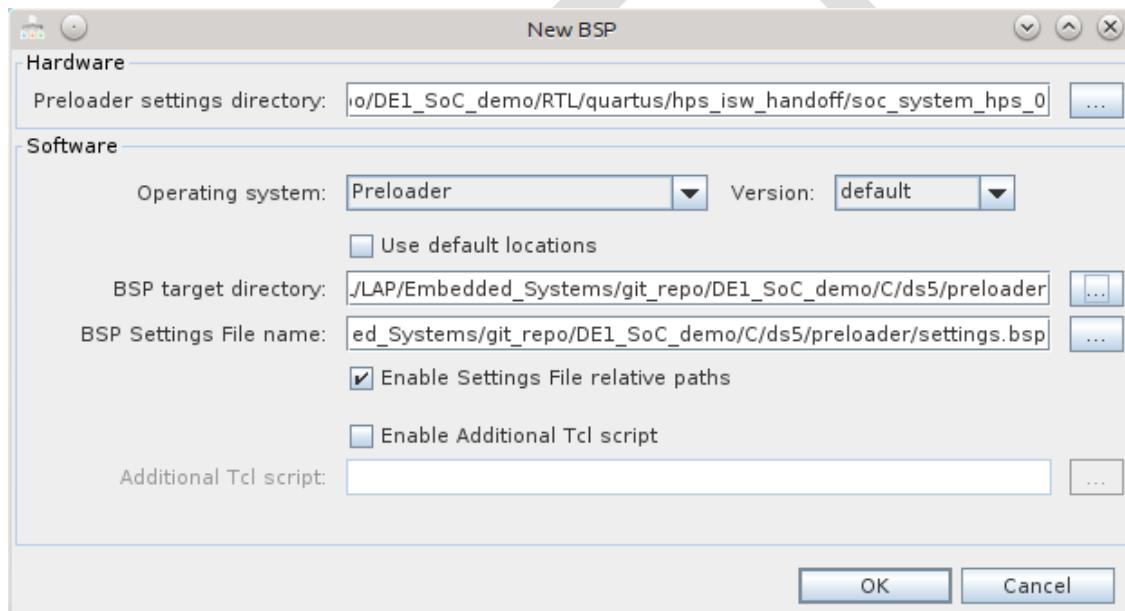

Figure 8-25. New BSP Dialog
- b. Disable the “Use default locations” checkbox and under the “BSP target directory”, select the “DE1_SoC_demo/C/ds5/preloader” directory. You should have something similar to Figure 8-25.